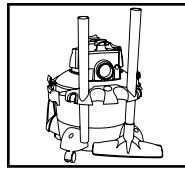

FIGURE 29
53. Accessories may be stored in the tool holder. **FIGURE 29.** The vacuum should be stored indoors.